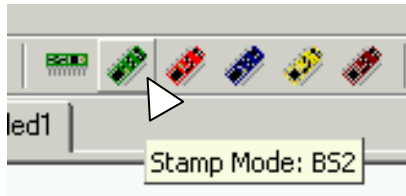

Figure 1-34
- ✓ Begin by clicking the BS2 icon (the green diagonal chip) on the toolbar, shown highlighted in Figure 1-34. If you hold your cursor over this button, its flyover help description “Stamp Mode: BS2” will appear.